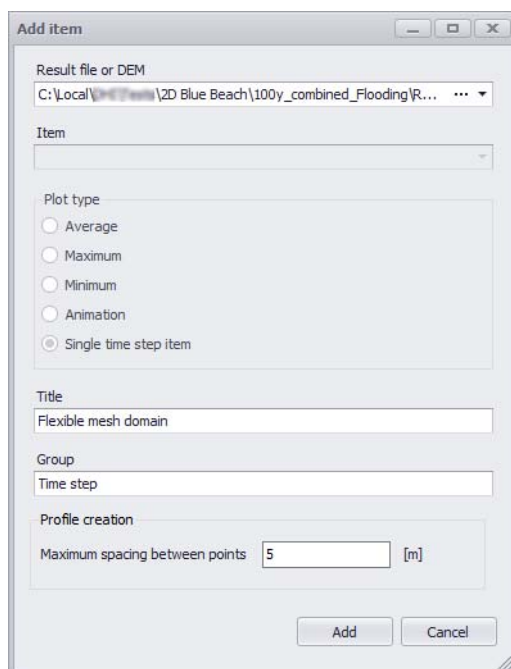

Figure 20.38 The 'Add item' dialog where the DEM file and settings are specified
- Select the DEM file, as well as the item if the file contains multiple items. A maximum spacing must also be specified: it controls the spacing between points along the DEM profile (Figure 20.38).